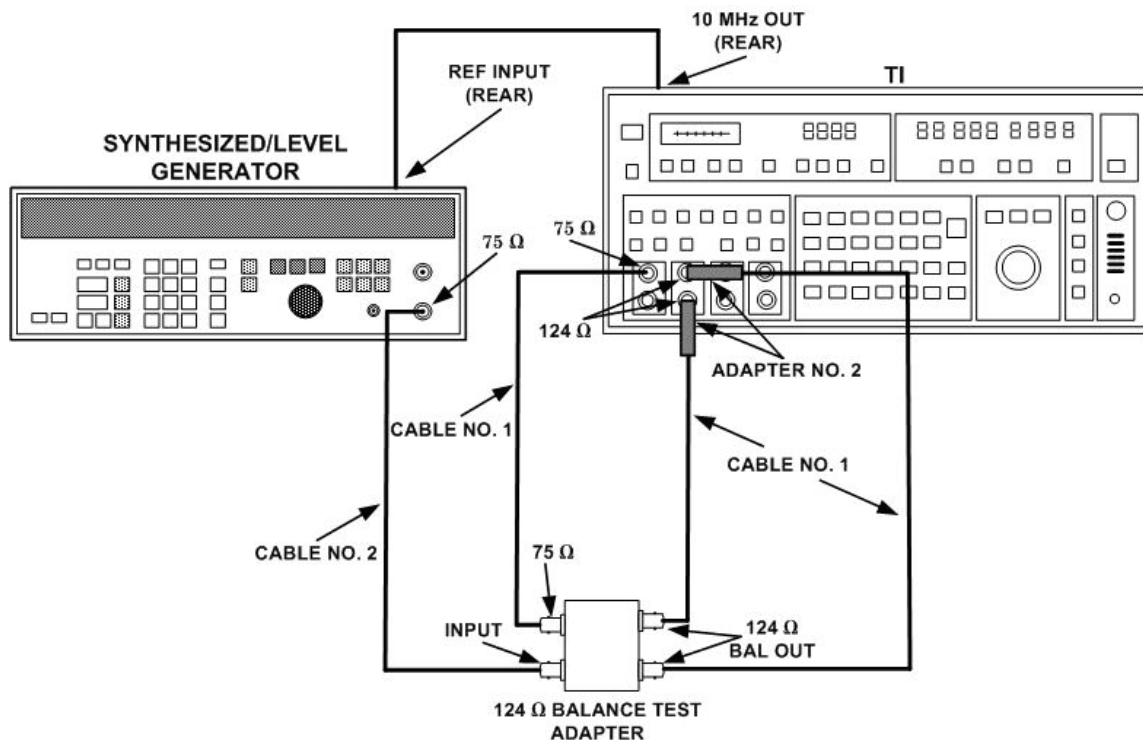

Figure 4. 124 Ω balance test - equipment setup.
- (10) Connect equipment as shown in figure 4.